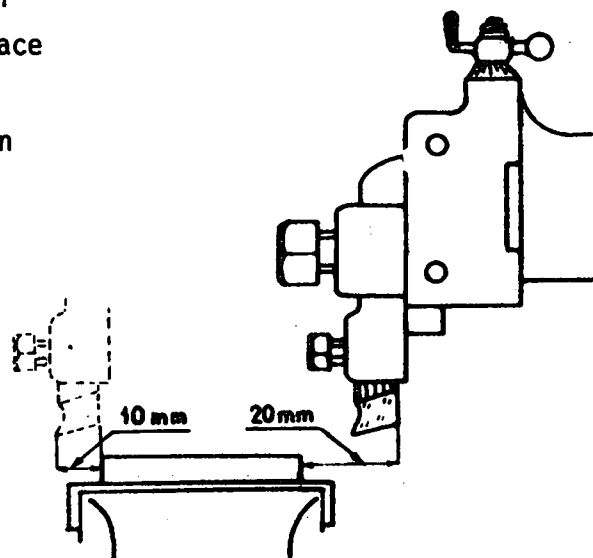

Fig. 8
- Adjust and centre the run of the tool (Fig. 8).